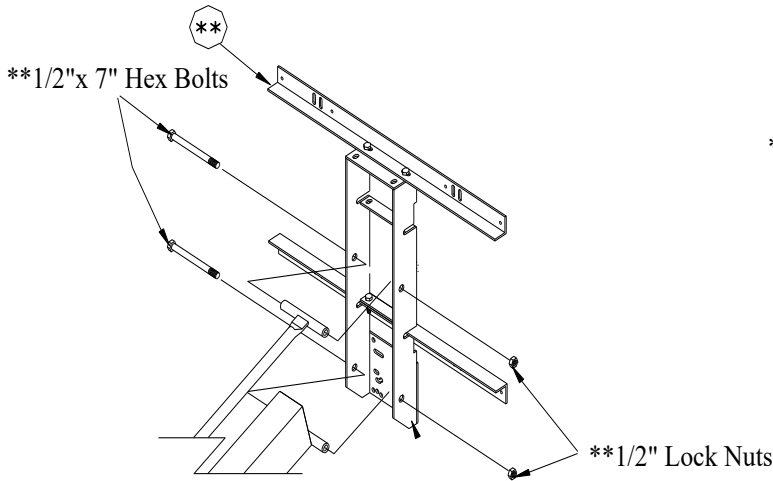

Figure 5A
12. Tighten all hardware installed from instructions #10 and #11 making sure that the *Rim (Z)*, *Backboard (Y)* and the *Backboard Mounting H-Frame (AA)* are square to each other.
13. Mount the entire rim/board/mounting H-frame assembly to the *Horizontal Extension Arm (M)* and the *Horizontal I-Rod (N)* using hardware included with *Backboard Mounting H-Frame (AA)*. This task is most easily accomplished when the pole has been cranked to the lowest possible position and the bottom bolt is inserted first. (\*\* refers to hardware supplied w/ Backboard Mounting H-frame.) See Figure 5A and 5B.